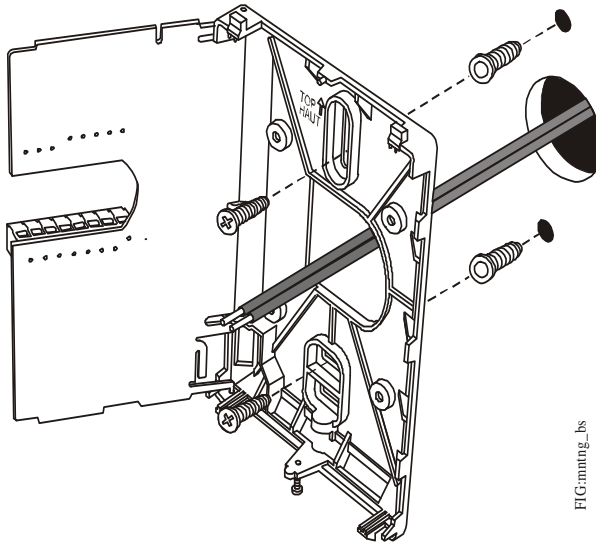

Figure 2: Mounting the LN-VSTAT and LN-PSTAT sensors
1. Unscrew the security screw on the bottom of the casing (Figure 2).